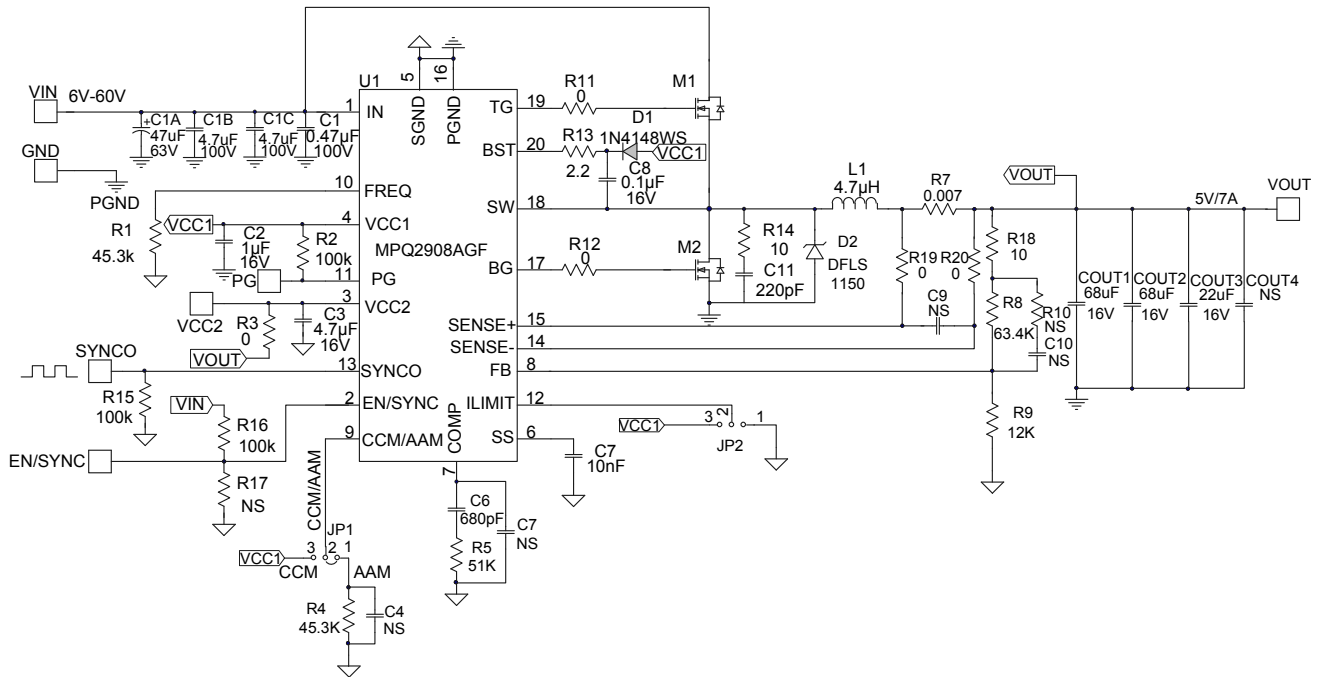

Figure 12: 5V Output Application Circuit for TSSOP Package
- 6) The recommended PCB layout is based on Figure 12.